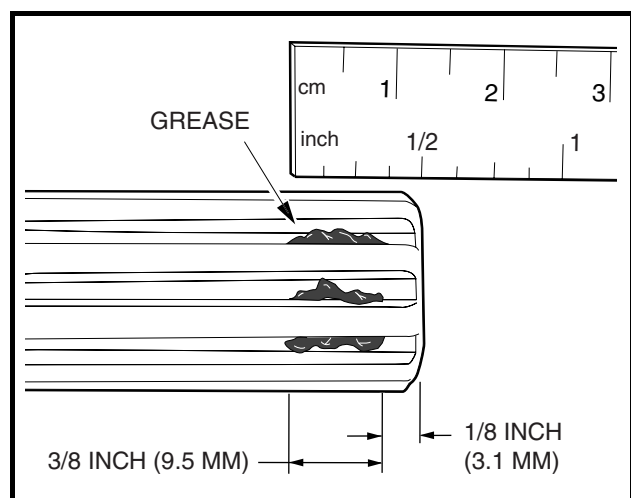

Figure 15-14 Application of Grease to Input Shaft Grooves
- 2.3. Apply motor coupling grease evenly to the rotating input shaft starting at approximately 1/8 inch (3.1 mm) from the end of the shaft and working back toward the transaxle (away from the end of the shaft) (**Figure 15-14, Page 15-11**).